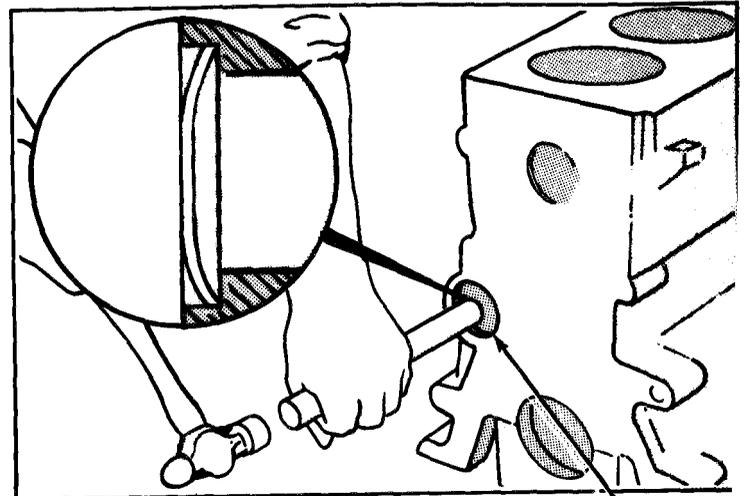

Figure 6-19
6. Using a large drift and hammer, expand camshaft expansion plug (2, Figure 6-19) and drive it flush with block.